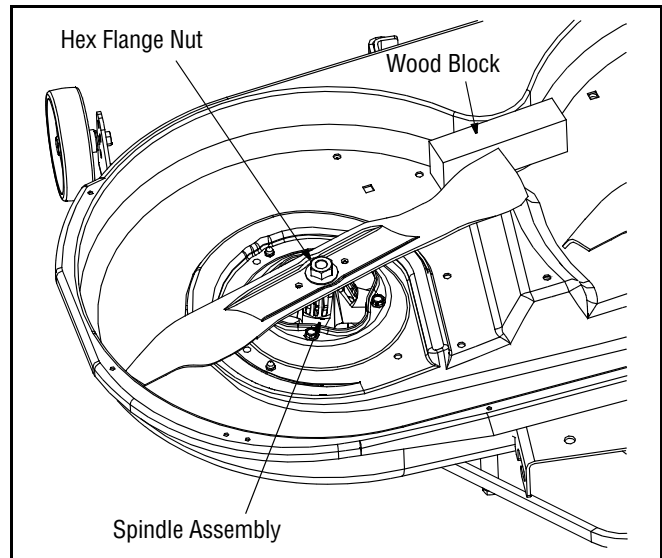

Figure 18
- Place a block of wood between the center deck housing baffle and the cutting blade to act as a stabilizer. See Figure 18.
- Use a wrench to remove the hex flange nut that secures the blade to the spindle assembly. See Figure 18.